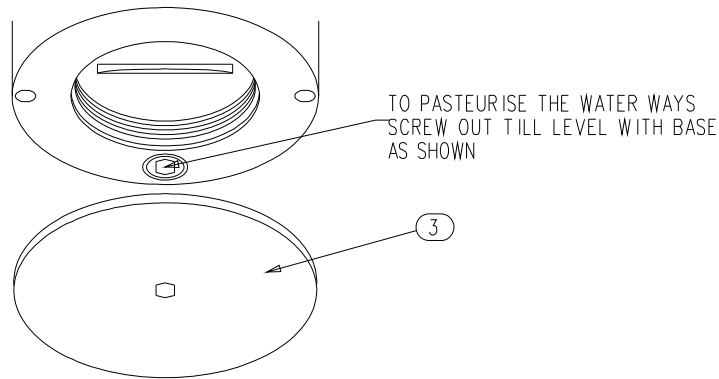

Fig 4
- 2) The cold water isolator should be closed, this is accessed by unscrewing the shroud (13) and pulling it back along the elbow taking care not to scratch the chrome, the 2.5mm hexagon wrench is inserted in the isolating plug (6) and rotate it clockwise until it locks.
- 3) The back cover (3) is unscrewed using a 2.5mm hexagon wrench and put to one side.
- 4) The flushing screw (19) is unscrewed downwards till it is level with the bottom of the body (do **not** remove completely) see Fig4.
- 7) The flushing screw (19) is screwed upwards till it locks.
- 8) Replace the back cover (3) , reinstate the cold water and replace the shroud (13).